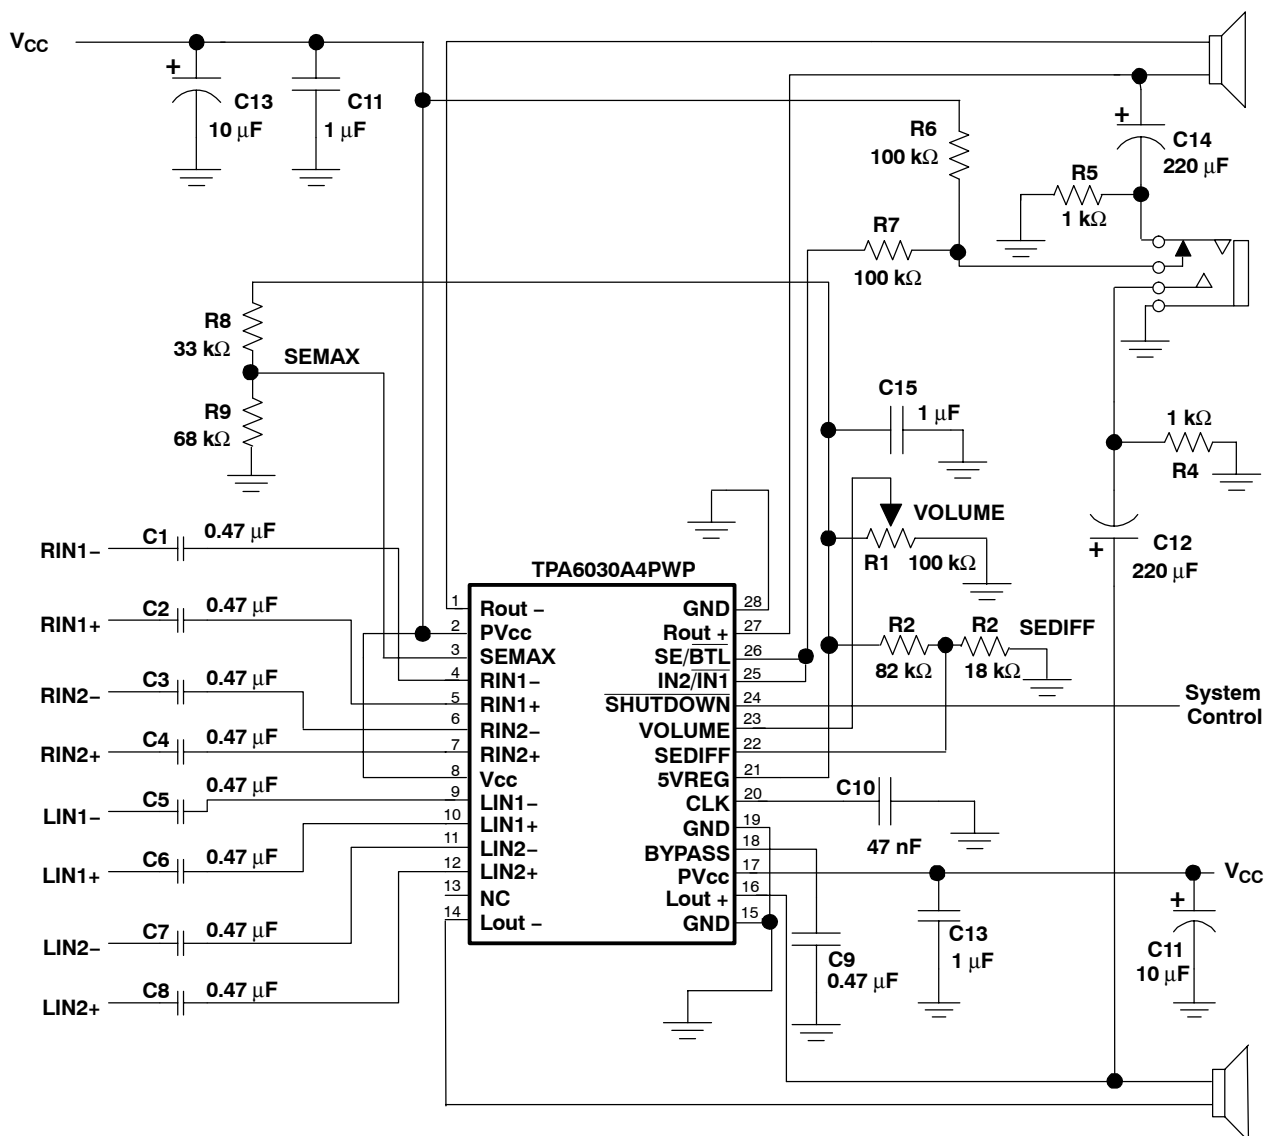

Figure 22. Typical Application Circuit for an LCD Monitor
The circuit shown in Figure 22 automatically switches between headphone outputs and speaker outputs when a headphone plug is inserted or removed from the headphone jack. Additionally, this circuit uses resistor divider networks to limit the headphone volume. Resistors R8 and R9 form a divider network that applies 67% of 5VREF to the SEMAX pin, which results in a maximum output of 7.2 dB. Resistors R2 and R3 form a divider network that applies 18% of 5VREF to the SEDIFF pin.
Using a readily available 1/8-in. (3,5 mm) stereo headphone jack, the control switch is closed when no plug is inserted. When closed, the parallel combination of R5 and R7 (see Figure 22) pulls the SE/BTL pin low⁽¹⁾, causing the device to operate in BTL mode. When a plug is inserted, the 1-kΩ resistor is disconnected and the SE/BTL input is pulled high⁽¹⁾. When the input goes high⁽¹⁾, the negative output amplifiers go into a state of high impedance, essentially open circuiting the speaker. The positive output amplifiers then drive through the output capacitor (CO) into the headphone jack.
In some applications, it may be desirable to have one input specifically for BTL operation and one input specifically for SE operation. This is accomplished by tying the SE/ $\overline{\text{BTL}}$ and IN2/ $\overline{\text{IN1}}$ pins together and connecting them to a common control voltage. An example of this type of configuration can be found in Figure 22. The two pins are tied together and are connected to the resistor divider network. That network is connected to the stereo headphone jack, and is closed when no plug is inserted. This pulls both the IN2/ $\overline{\text{IN1}}$ and SE/ $\overline{\text{BTL}}$ pins low, causing the amplifier to go into BTL mode using the IN1 (RIN1 and LIN1) inputs. Should a headphone plug be inserted into the headphone jack, both inputs would be pulled high, and the amplifier would be in SE mode using the IN2 inputs.